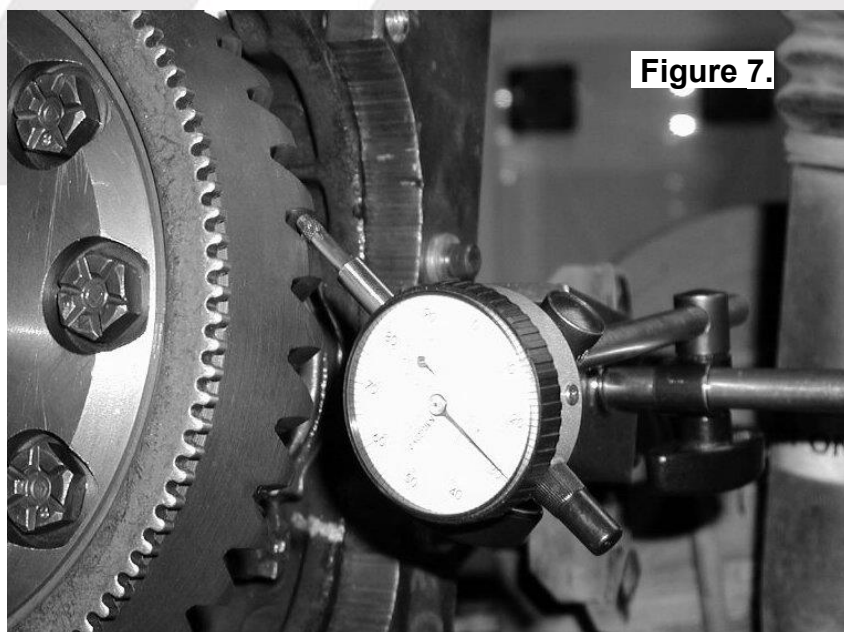

Figure 7.
- Set a depth indicator on one of the ring gear teeth. (Fig.7.)